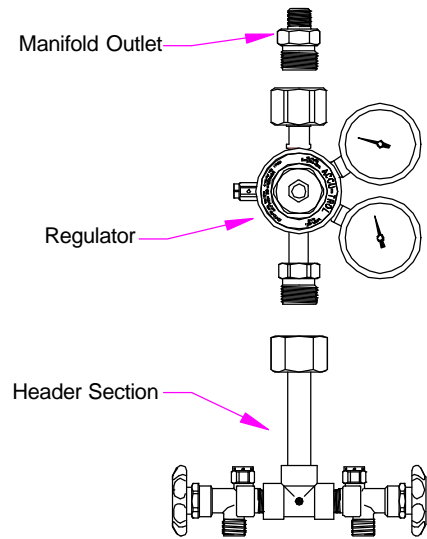

FIGURE 2
1. Assemble the manifold outlet fitting to the regulators outlet (Figure 2).
2. Assemble the header assembly to the regulator inlet oriented as shown in Figure 2.
1. Determine and mark the vertical center line for installation of the manifold. (Figure 2)